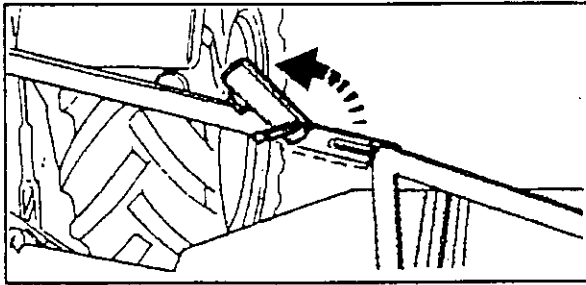

fig. 4-13
3. Fold up the locking bolt (fig. 4-13).